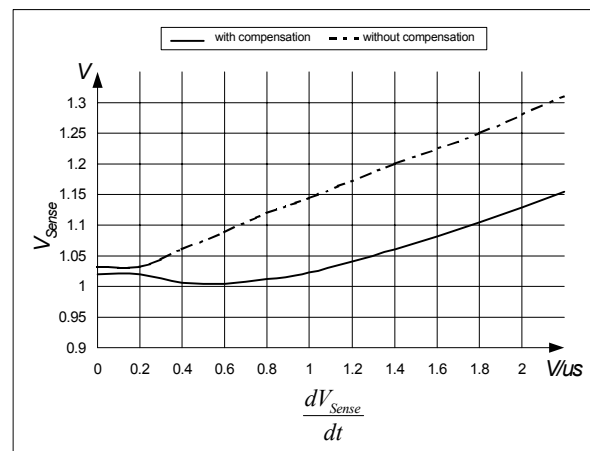

Figure 18 Overcurrent Shutdown
So current limiting is now capable in a very accurate way (see Figure 18).
E.g. $I_{peak} = 0.5A$ with $R_{Sense} = 2$. Without propagation delay compensation the current sense threshold is set to a static voltage level $V_{csth} = 1V$. A current ramp of $dI/dt = 0.4A/\mu s$, that means $dV_{Sense}/dt = 0.8V/\mu s$, and a propagation delay time of i.e. $t_{Propagation Delay} = 180ns$ leads then to a I_{peak} overshoot of 12%. By means of propagation delay compensation the overshoot is only about 2% (see Figure 18).